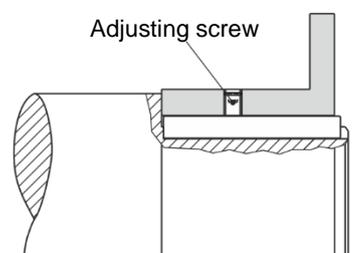

Fig. 4
- ❑ For axial securing, please provide an additional adjusting screw (ISO 4029 – 45H) as an alternative to a press cover (see Figs. 4 and 5).